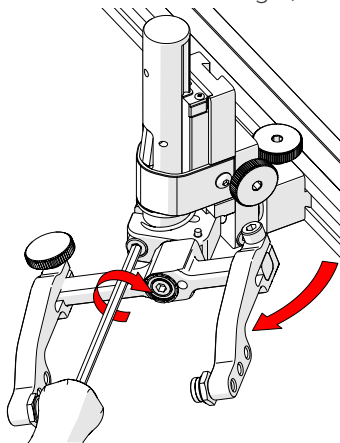

Fig. 153 - Rotate and tighten
3. Tighten the transverse adjustment screw (Fig. 153).